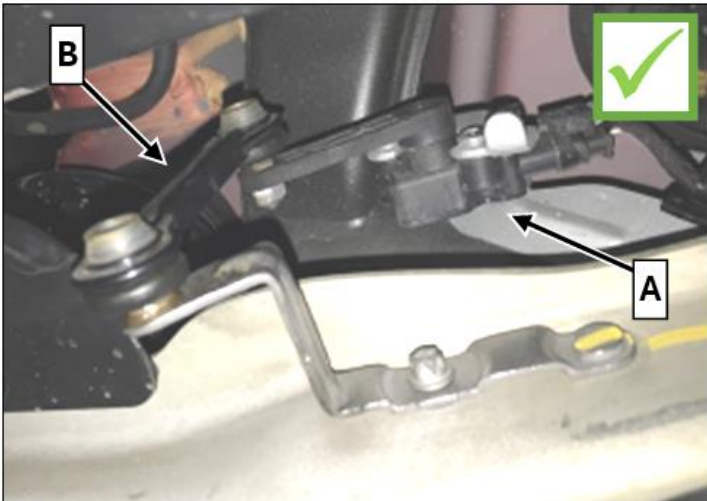

Figure 2 (OK picture)
**i** The installation position of the link rod (B) of the right rear axle level sensor (A) must be installed as shown in figure 2 (**OK picture**)!